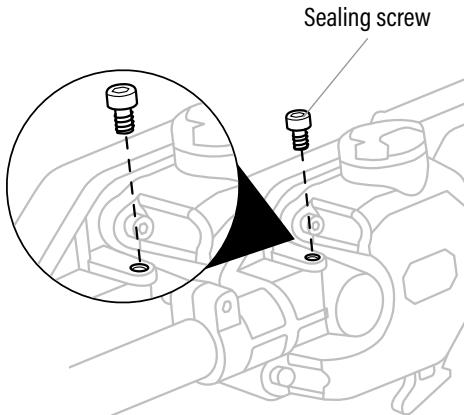

Fig.17
1. Position the pole saw attachment on a firm, flat surface so that the sealing screw is facing upwards (Fig. 17).